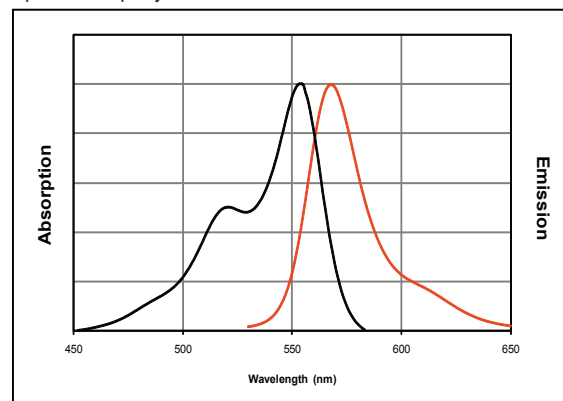

Figure 1. Absorption and emission spectra of CF™ 555 conjugated to goat anti-mouse IgG in PBS. Spectra of CF™ 555 conjugated to other proteins are similar.
**Abs/Em Maxima:** 555/565 nm (See Figure 1)